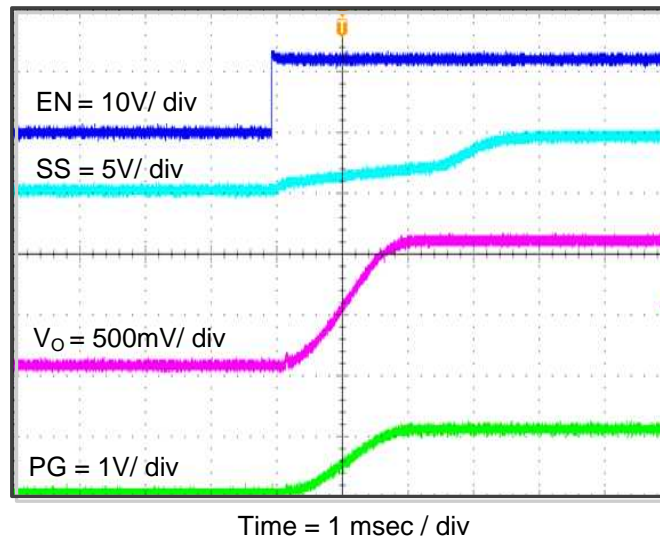

Figure 12. TPS563210AEVM-663 Start-Up Relative to EN
The TPS563210AEVM-663 start-up waveform relative to enable (EN) is shown in Figure 12. Load = 1 Ω resistive.